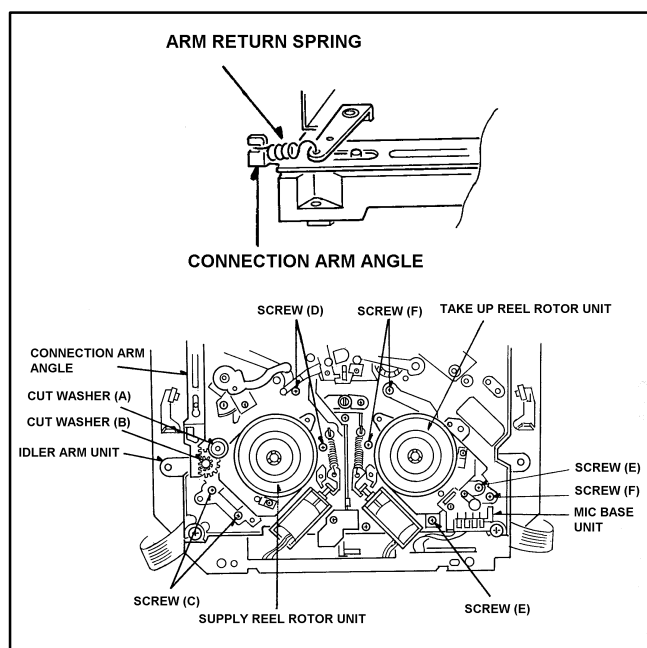

Figure 1-5-3
5. Remove the Cut Washer (A) and (B) to remove the Idler Arm Unit as shown in Figure 1-5-3.
6. Unscrew the 4 screws (C) to remove the Supply Reel Rotor Unit.
7. Unscrew the 2 screws (D) to remove the S-Side M Stopper from Supply Reel Rotor Unit.
1. Disconnect the connector P615 on the Servo P.C.Board and unscrews the 2 screws (E) ,and then remove the MIC Base Unit as shown in Figure 1-5-3.
2. Unscrew the 3 screws (F) to remove the Take Up Reel Rotor Unit as shown in Figure 1-5-3.
3. Unscrew the 2 screws (G) to remove the T-Side M Stopper from Take Up Reel Rotor Unit as shown in Figure 1-5-3.